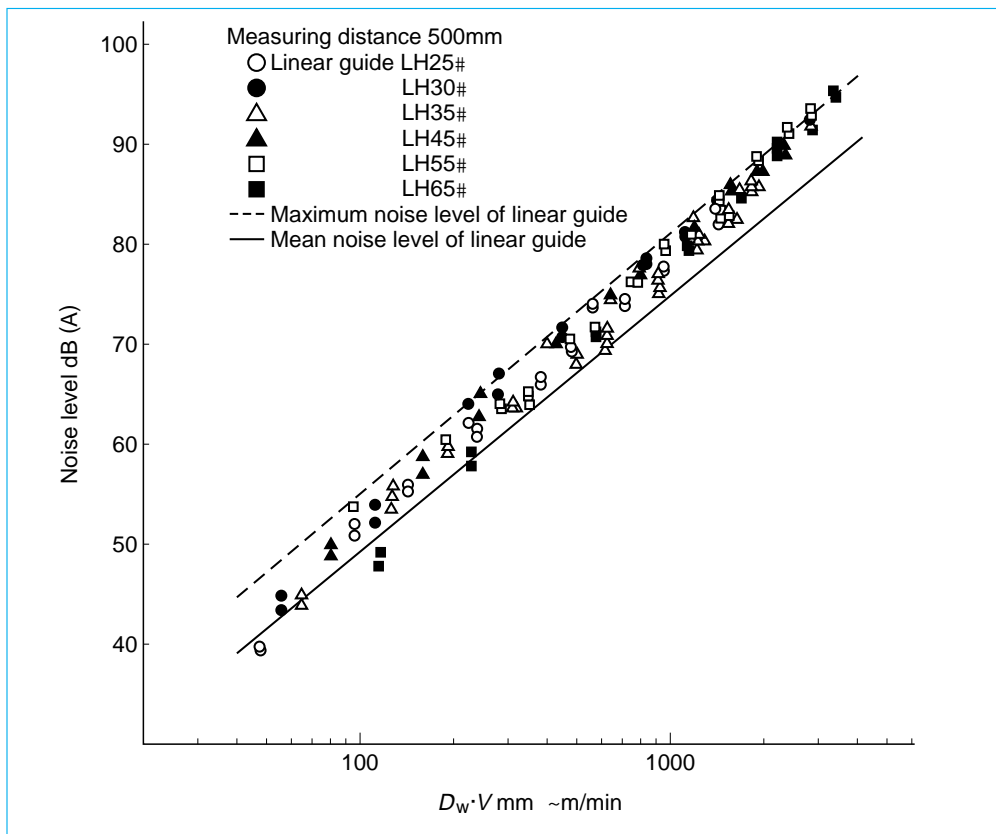

Fig. II-8-1 Noise levels of linear guides
- Fig. II-8-1 is a noise-level data plot. The product of  $D_w$  (mm) ball diameter of linear guide and travel speed  $V$  (m/min) is shown on the abscissa. The noise level is shown on the ordinate.
Therefore, from Fig. II-8-1, the noise level is 66 ~ 72dB (A).